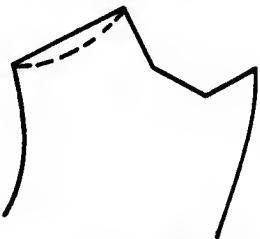

Fig. 177. Curve for the shoulder seam.
1. In tailoring, the shoulder seam is usually curved at the neckline so that the shoulder will curve up onto the neck (Fig. 177).